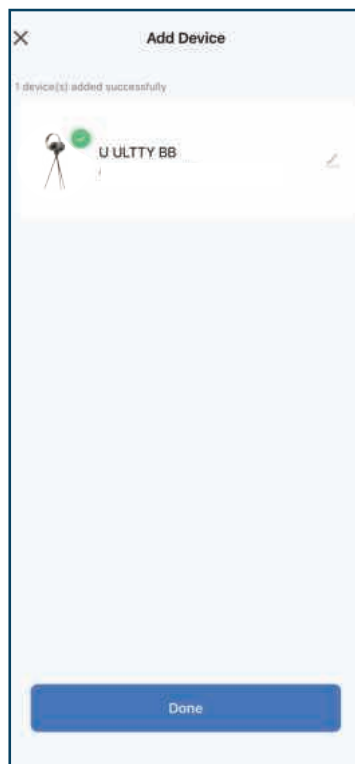

Figure 10
13. After successful connection, press the fan icon on the screen to display the control panel (Figure 10);